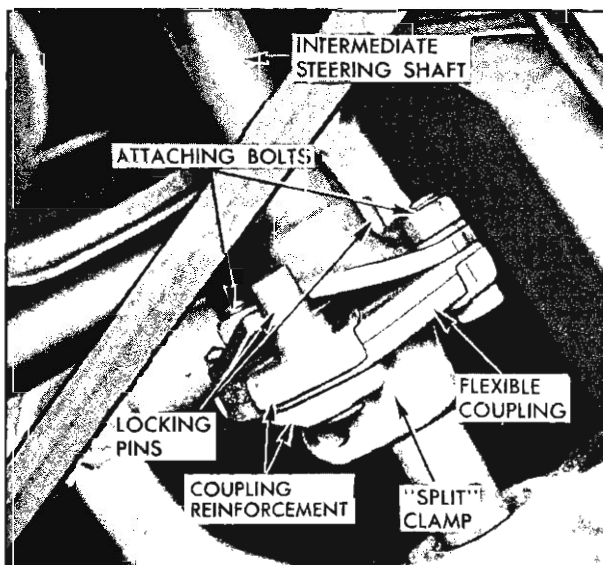

Fig. 11—Lower Steering Coupling
3. If coupling is to be disassembled, first scribe a mark as shown in Figure 11, then remove the two retaining nuts, bolts, reinforcements, and lock-washers. Separate the lower "split-clamp" and, remove the wafer type coupling and two locking pins.